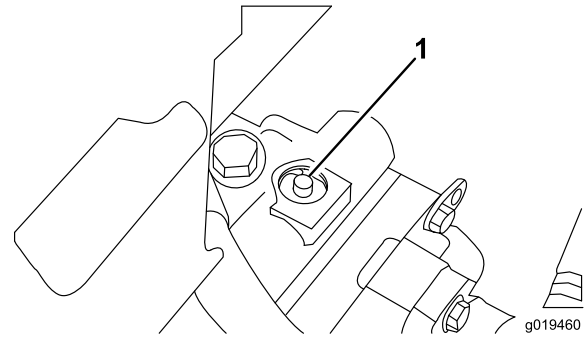

Figure 40
1. The bypass valve is located on top of variable displacement pump (Figure 40). Rotate the valve 90°, in either direction, to open and allow oil to bypass internally. Because fluid is bypassed, the machine can be moved slowly without damaging the transmission.